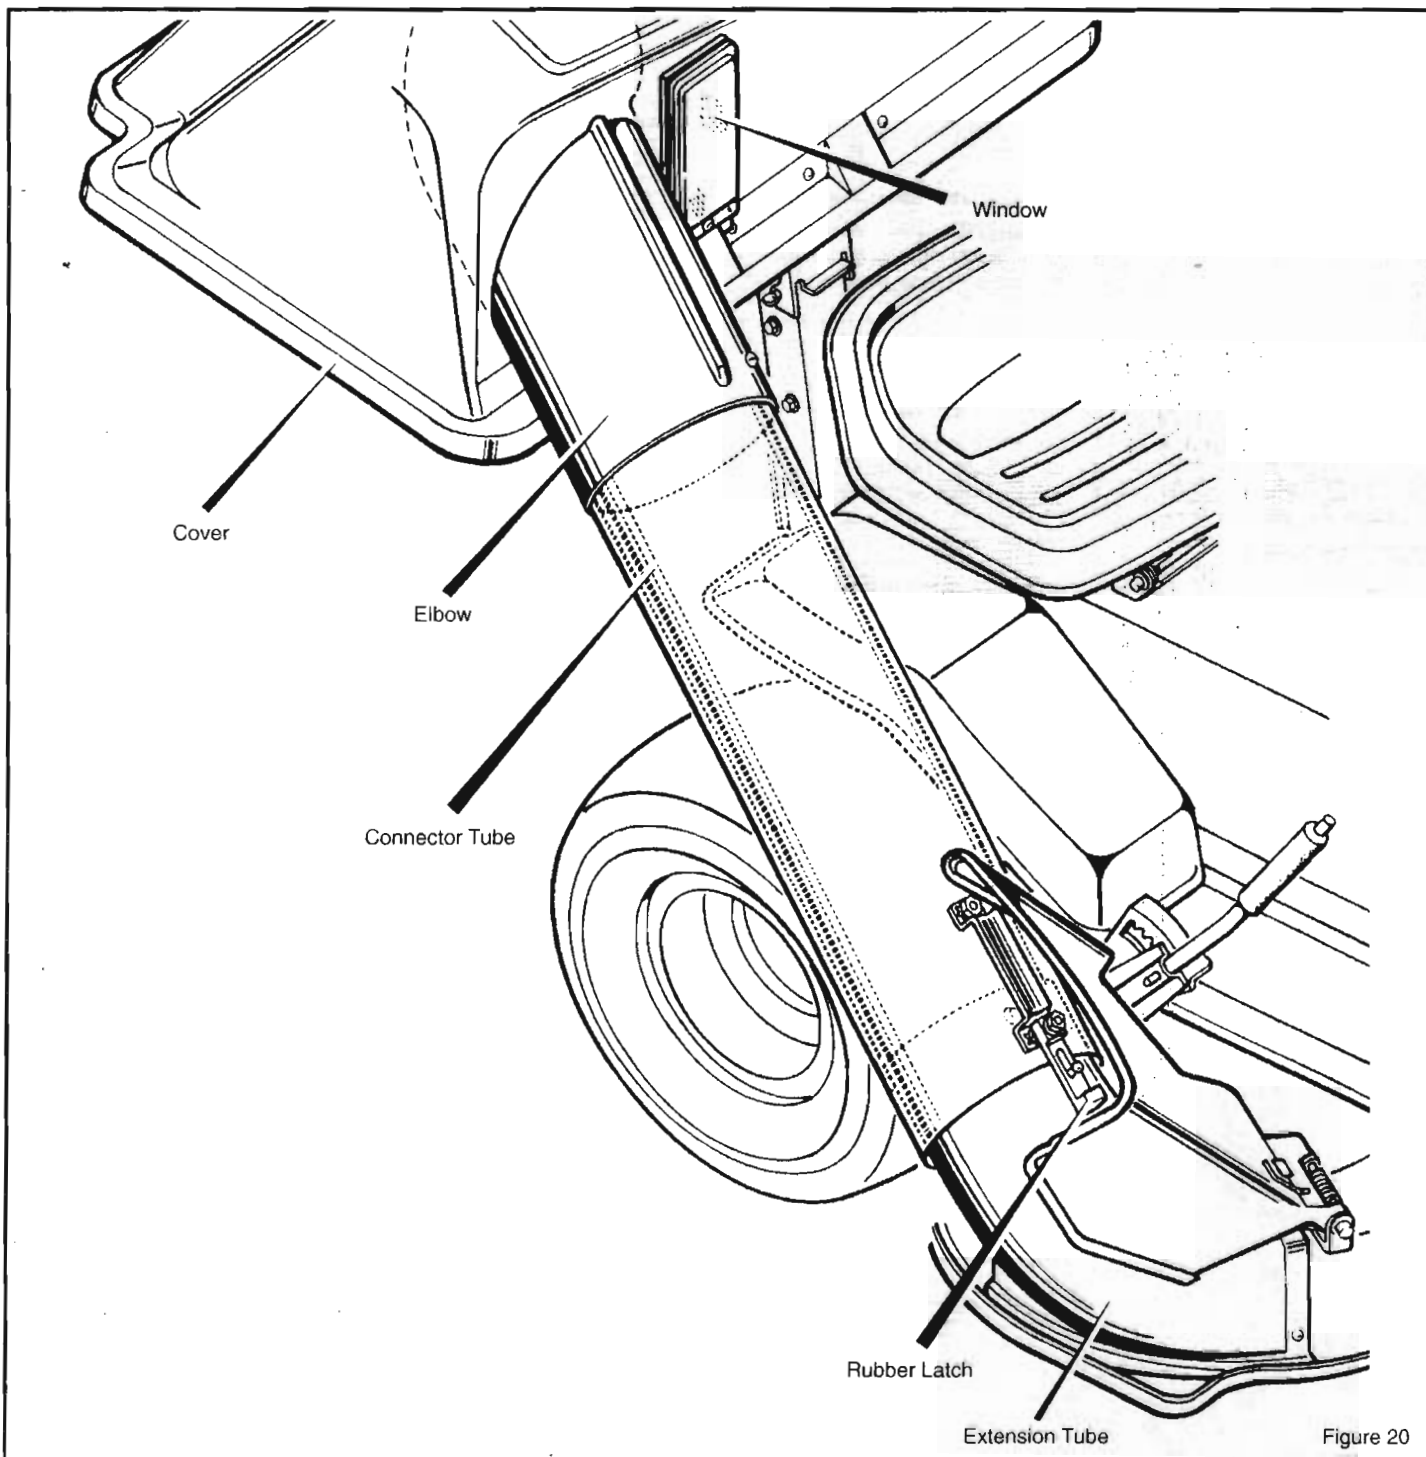

Figure 20
1. Disconnect the **rubber latch** from the **extension tube** (Figure 20).